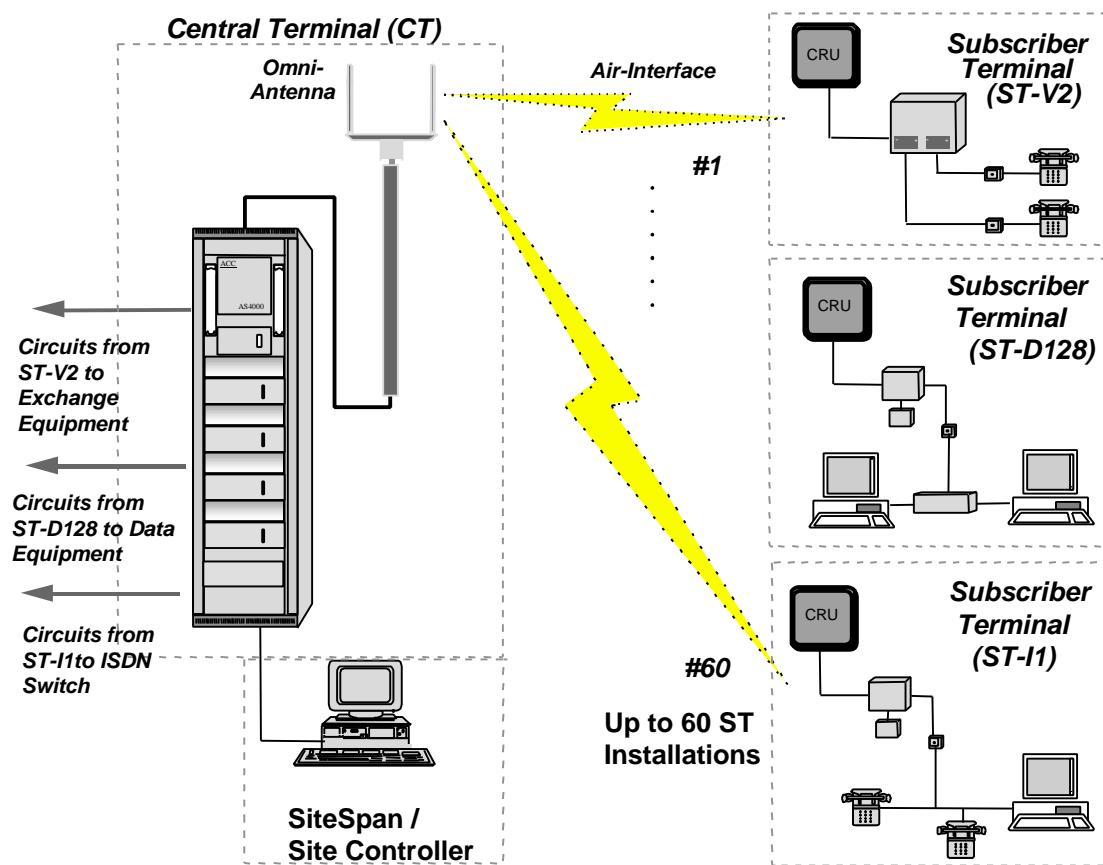

Figure 1. AS4000 System
- The AS4000 System consists of 3 major physical blocks (See Figure 1): Subscriber Terminals (ST), which are located at the customer's premises up to 60 STs per system; the Central Terminal (CT); and AS8100 Sitespan or the AS8300 Element manager